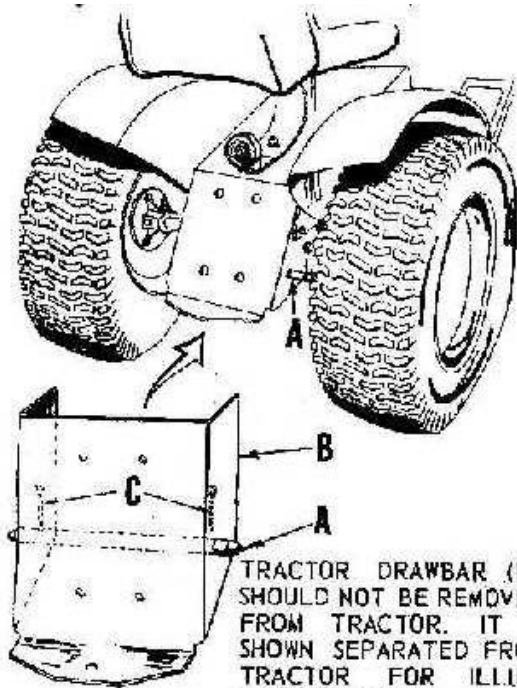

FIG. 1
2. Refer to Fig. 1. Slip lower link pin (A), through holes in sides of tractor drawbar (B), as shown.
NOTE: Insert and spread 3/16 x 1 cotter pins (C), through inner holes of link pin (A), and underside of drawbar as shown in Fig. 1. If link pin (A), cannot be inserted this way, jack up tractor and remove one rear wheel.